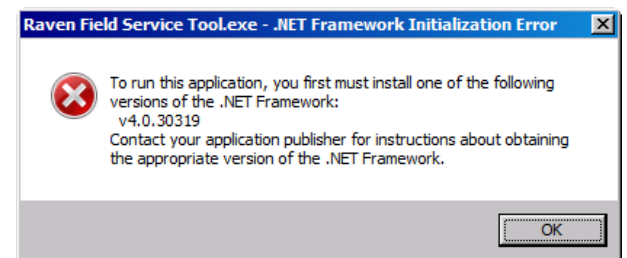

Figure 14 Raven Field Service Tool - Error message.
- b. If you get a "Raven Field Service Tool .NET Framework" error message (Figure 14), go to section 3.4 to update the .NET Framework.